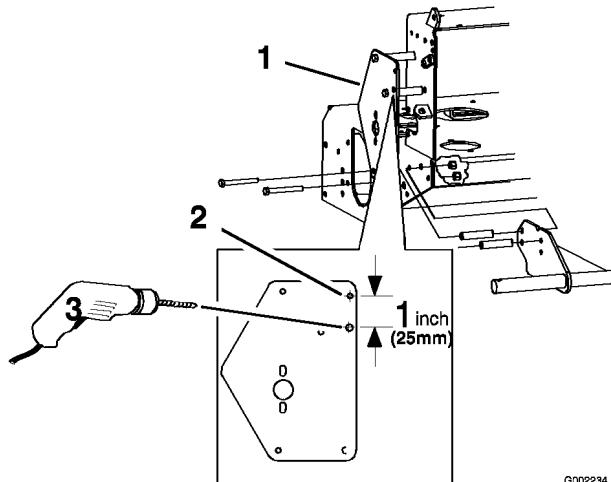

Figure 8
1. Inspect the linkage guard and determine if there is an extra hole in the guard below the upper rear hole. Refer to Figure 8 for the correct location. If there is no existing hole, perform items 2 and 3 for drilling a hole.
2. If a hole exists, proceed to item 4 of this procedure.
4. Mark the location and drill a 11/32 inch hole into the linkage guard (Figure 8).